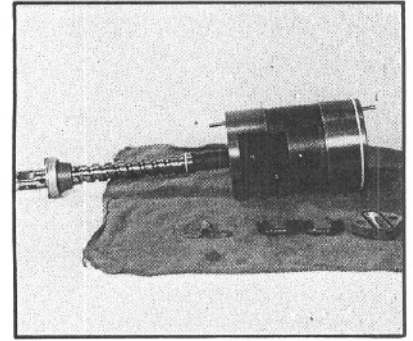

Figure 70
34. Remove the worm shaft/input shaft (17) from the rack piston (31) (FIG. 70).